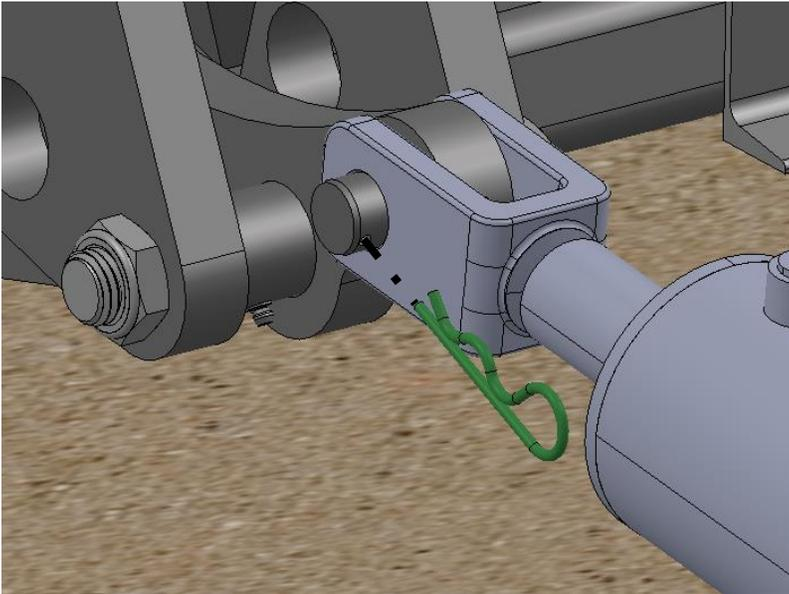

Figure 8. Align hairpin clip to clevis pin end hole
5. Install hairpin clip. (See Figure 8 & 9)